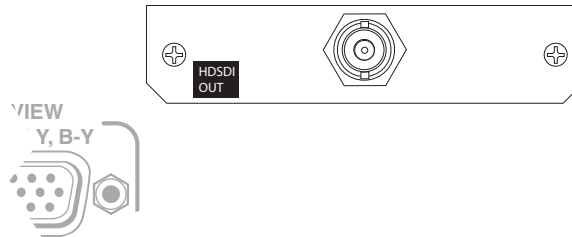

Figure 2-11 — Optional HD-SDI output board
- 9c) **HD-SDI output connectors (optional)** — If the optional HD-SDI output card is installed, connect an HD-SDI display to this female BNC connector (figure 2-11). This connector outputs the program image only.